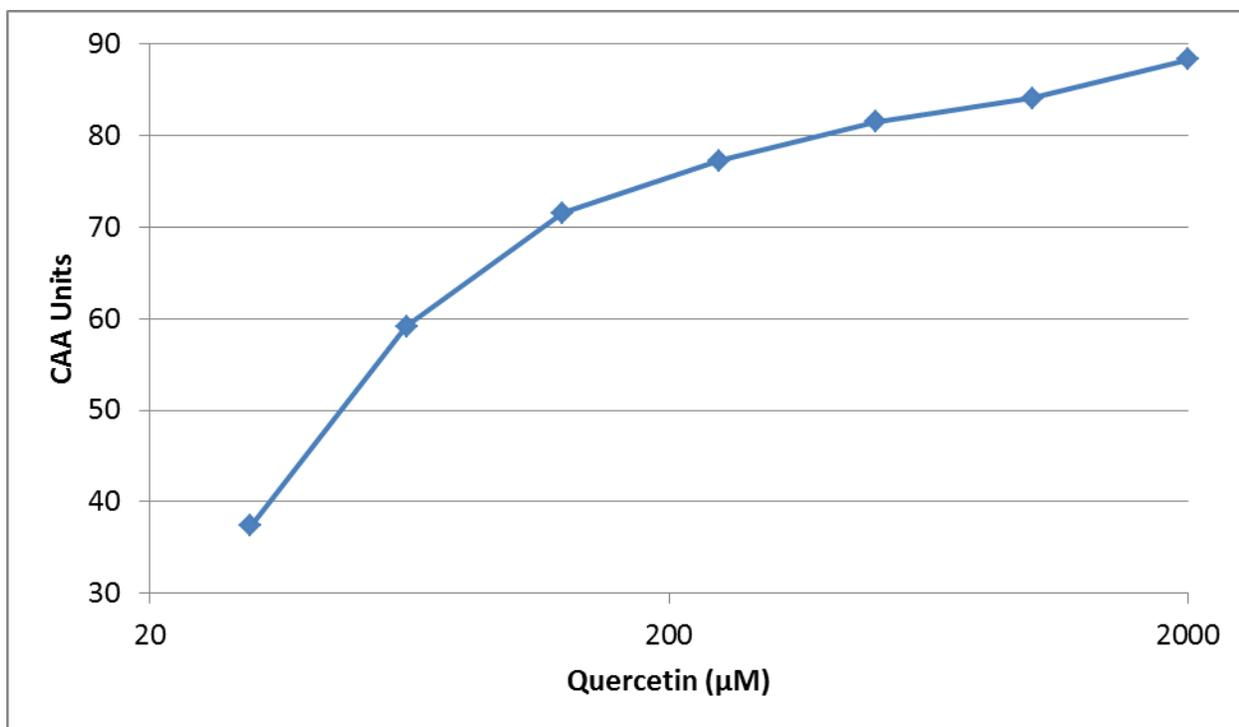

Figure 3. Dose-Response Curve of Quercetin Standard.
3. Plot a dose-response curve by graphing CAA units versus Quercetin concentration (see Figure 3). Based on the Quercetin antioxidant standard curve, determine the equivalent Quercetin Equivalents (QE) value of unknown samples.